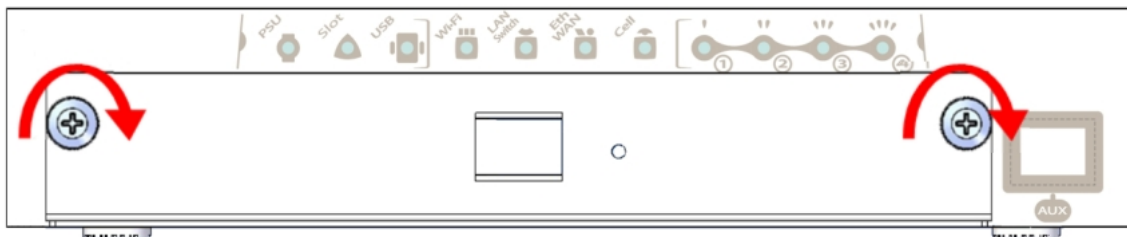

Fig. 10: Secure the tray to the front panel using two screws.
- (7) Secure the tray to the device. See Fig. 10 on page 10.